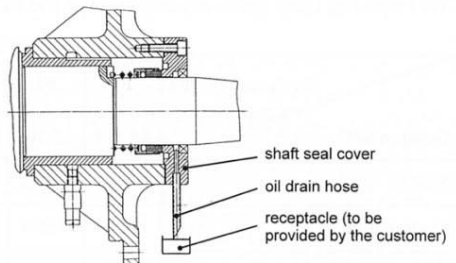

Fig. 12
- In compressors from type F6 onwards, the shaft seal cover is equipped with an oil drain hose for controlled removal of the leaking oil. A suitable receptacle is to be provided by the customer (fig. 12).